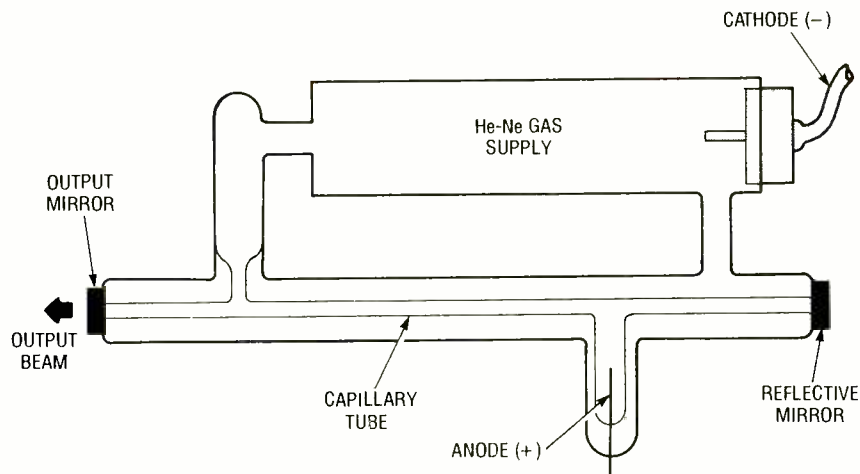

Fig. 5. This is the basic structure of a helium-neon gas laser. The capillary tube acts as the actual laser cavity and the rest of the tube is the gas supply.
**He-Ne Configurations.** The most common configuration of a helium-neon laser uses a large glass tube containing an ample supply of helium and neon (see fig. 5). The gas moves from the supply tube into a thin glass capillary tube connected to it (see Fig. 5). The narrow capillary tube can be up to 100 centimeters long, and allows a high density of current along its length. The anode of the high-voltage DC power supply is usually inserted into the capil-